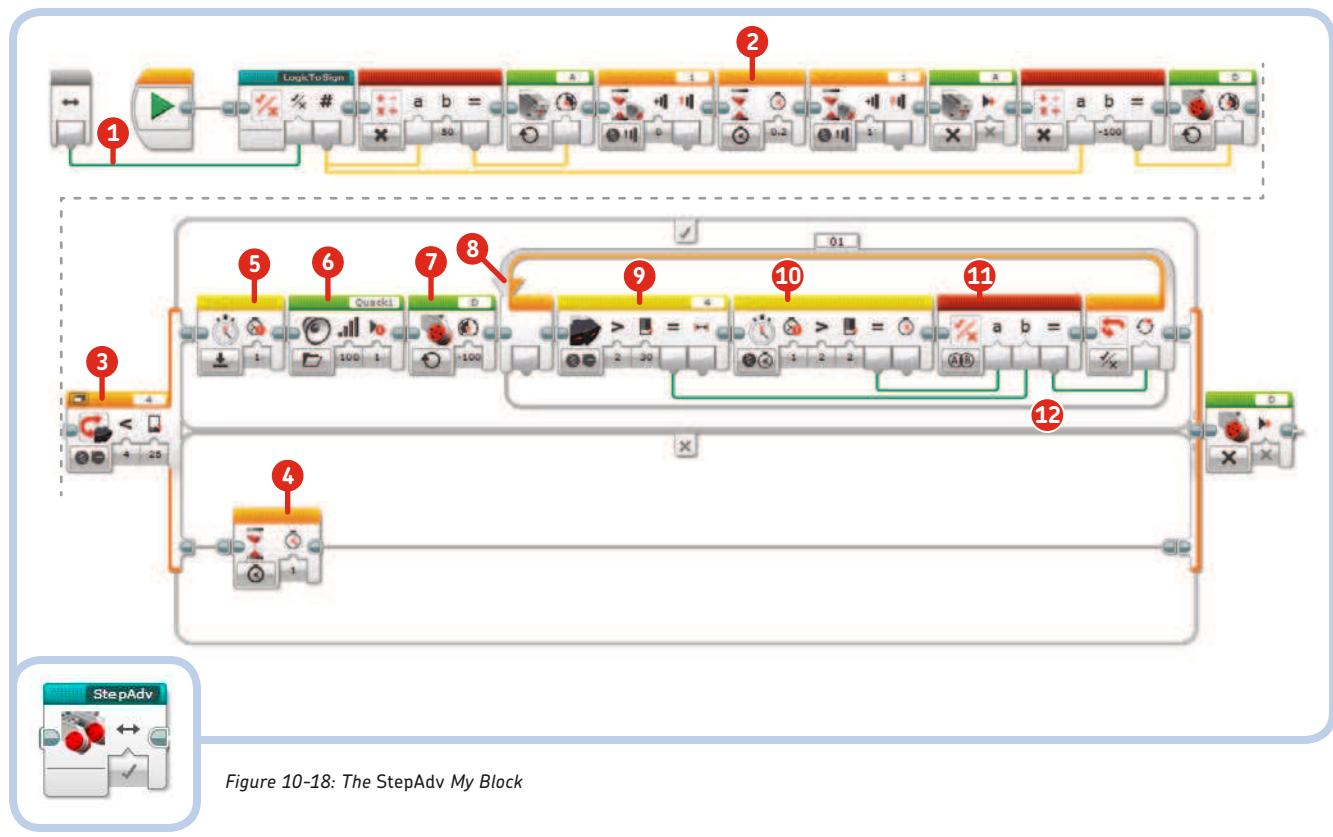

Figure 10-18: The StepAdv My Block
Now, double-click the new *StepAdv* My Block and edit it as shown in Figure 10-18.
What are the differences between the *StepAdv* My Block and the *Step My* Block? Let's analyze them using Figure 10-18 as reference. We added a Wait block in Time mode (2) between the Wait blocks in Touch Sensor mode. We also replaced the Wait block in IR Sensor mode with a Switch block (3) to check for obstacles. If no obstacle is seen, the program waits 1 second [Wait block (4) in the False case] and then stops the Large Motor (the last block after the Switch block). If the IR Sensor detects an obstacle, the blocks in the True case are executed.